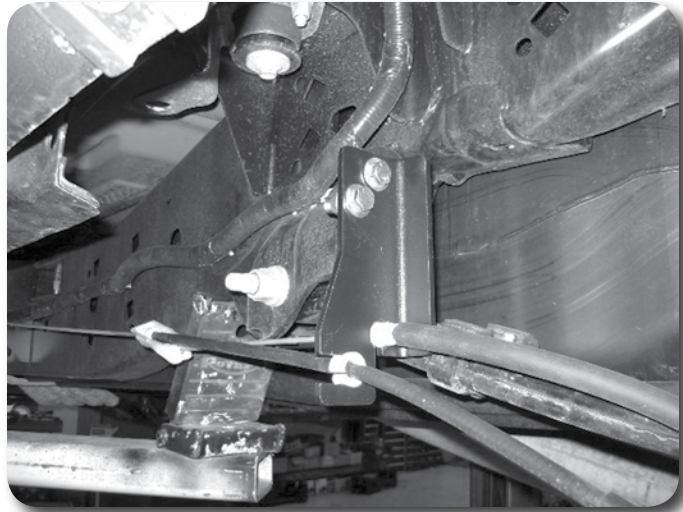

Figure 46
91. Install the provided parking brake relocation bracket to the driver's side front spring hanger using 7/16" bolts, washers, and nuts. **Figure 46**